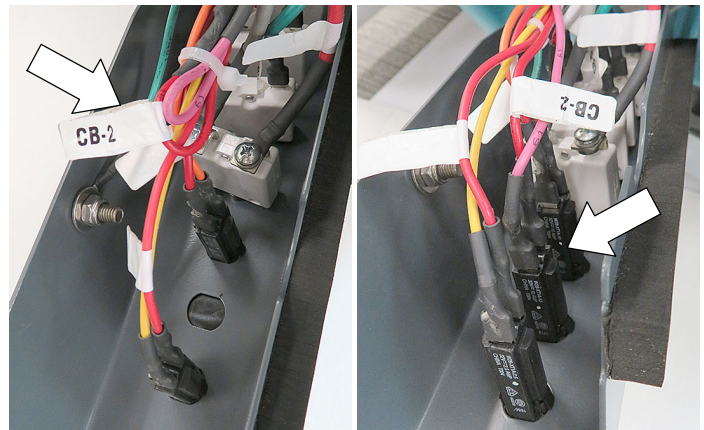

Fig. 34
6. Connect the factory installed red/1 and pink/61 CB-2 wire terminals to the new circuit breaker as shown (Figure 34).